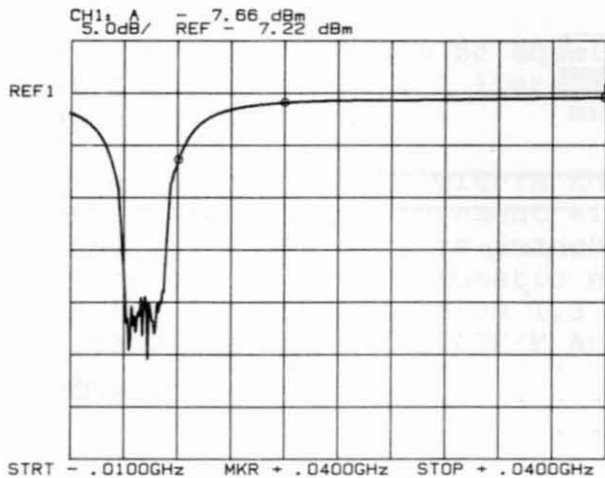

Figure 4-2. Trace Before Adjustment
- On the HP 8756A Channel 2, press **[SHIFT] [MEAS RATIO]** to turn Channel 2 off. On Channel 1, press **[MEAS PWR]** until the **A** LED is on. Press **[REF]** until the **POSN** LED is on, and use the step keys or knob to move the **REF POS** one line down from the top CRT graticule. Press **[SHIFT] [SCALE]**. A response dip similar to Figure 4-2 should be visible on the display. This dip is formed because the sweeper is a heterodyned source (in Band 1), sweeping through low frequencies where it is incapable of generating output power. The middle of this response dip is the "ZERO FREQUENCY" point.